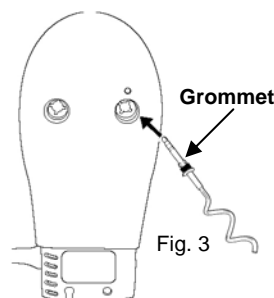

Fig. 3
- Looking at the under side of the hand mixer, you will see that one of the sockets has a red dot over it. (Fig. 3) Insert the dough hook with the grommet into this socket.